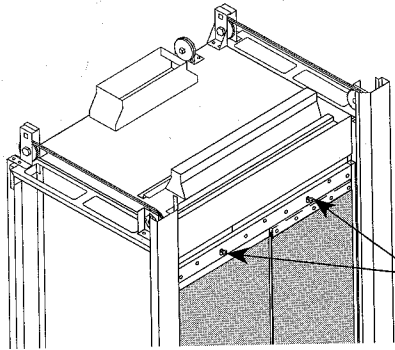

Figure 48
4. Unclamp the sash glass pane from the horizontal sliders by removing the four bolts holding the clamp channel in place, see Figure 48.